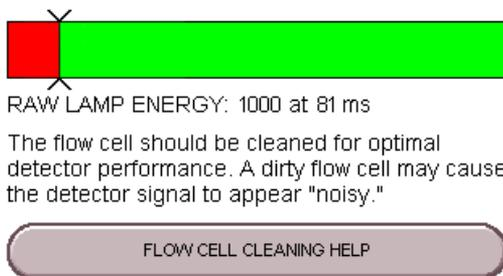

Figure 8-5 Raw Lamp Energy Gauge
2. From the Manual Control window (Figure 8-5), note the Raw Lamp Energy level at 254 nm. The Raw Lamp Energy gauge has two ranges: red and green.
If the numerical values of the Raw Lamp Energy (Figure 8-5) do not change, or if the first number remains at zero, contact Teledyne Isco's Technical Service department.